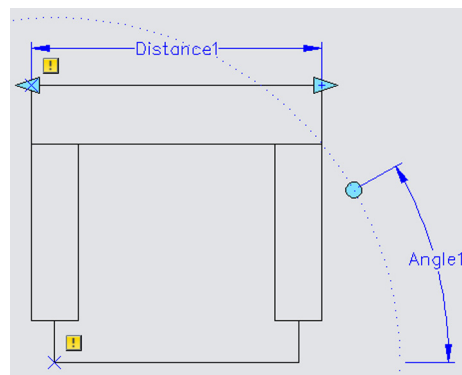

FIGURE 7.11
- Step 2.** While you are there, add a rotation by running through the required Base Point (lower left), Radius (any value), and Angle (30°) prompts. The result is shown in Figure 7.11.